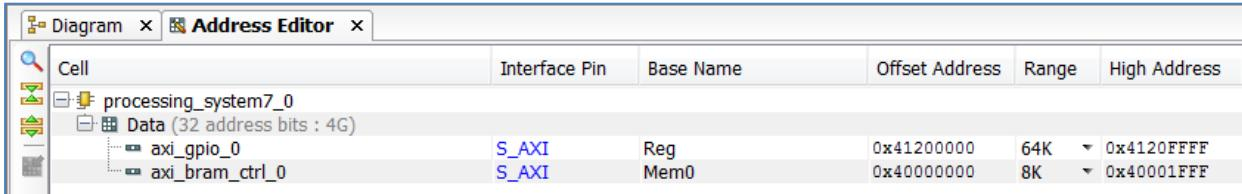

Figure 58: Memory Map the Slaves
- Click the **Address Editor** tab of the design to ensure that addresses for the memory-mapped slaves have been assigned properly. Expand **Data** by clicking the + sign as shown in Figure 58.